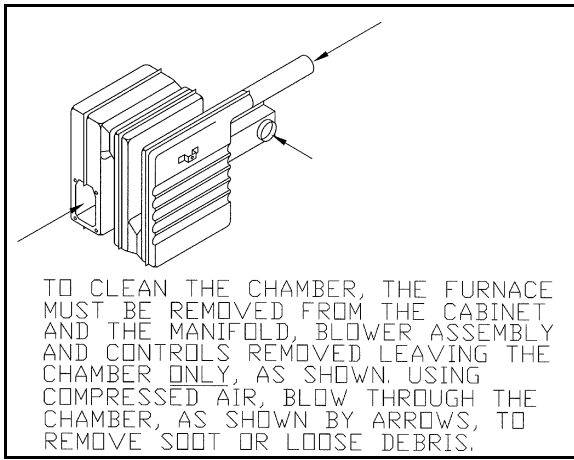

Figure 7
5. Inspect combustion chamber for restrictions in exhaust or intake. It is imperative that the flow of intake combustion air and the flow of exhaust gases being expelled to the outside atmosphere not be obstructed. Any soot or loose debris should be blown out using compressed air. (See Figure 7.)